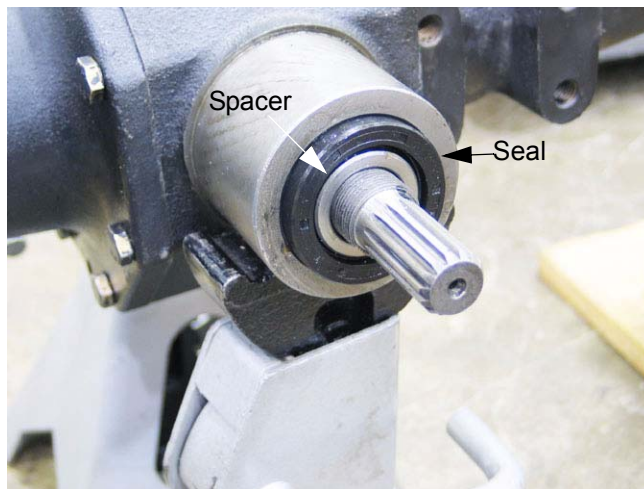

Figure 9.69
9.69. Lubricate the lip of the seal, and install it in the housing. See Figure 9.69.